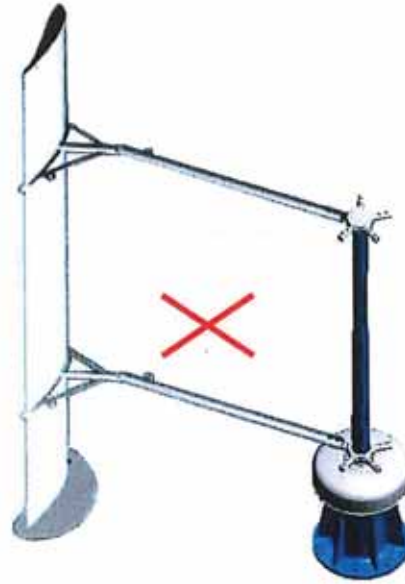

Figure 6
3.2.7 Assemble blades and short arm assembly onto the long arms using customized bolts, and tighten with flat washers ($\Phi 12$) and locknuts (M12), then insert the split cotter pins into the customized bolts. Refer to Figure 5. Make sure all the five blades are installed in the correct installation direction with the end marked "UP" facing upward. Refer to Figure 6.